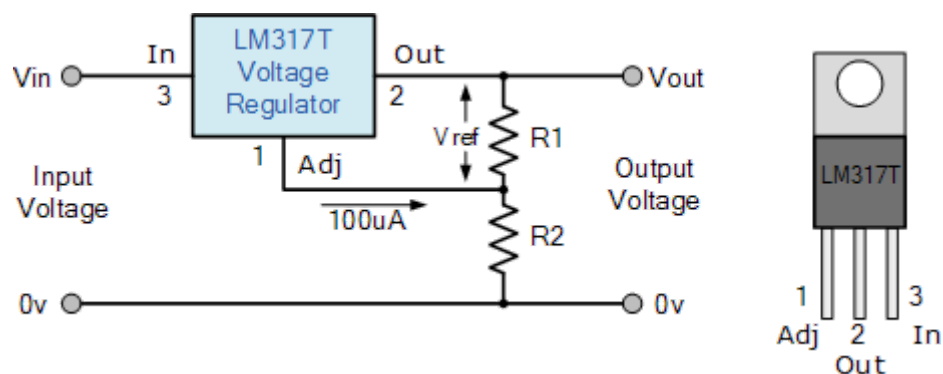

Figure 7. LM317T Voltage Regulator Circuit
- Figure 7. LM317T Voltage Regulator Circuit